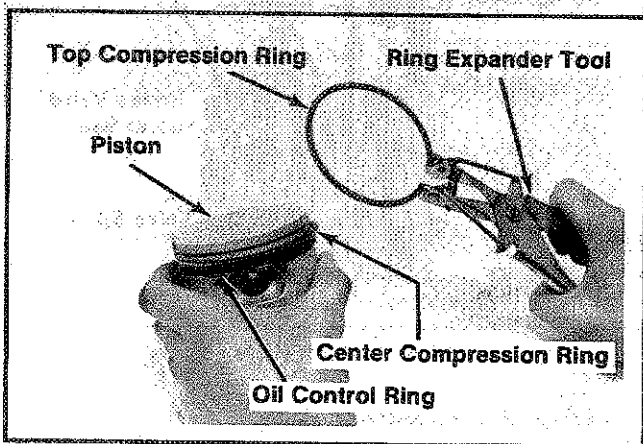

Figure 9-27. Removing Piston Rings.
1. Remove the top and center compression rings using a ring expander tool. Refer to figure 9-27.